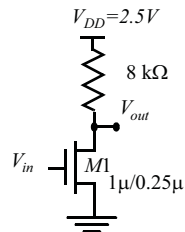

Figure 0.7 MOS circuit.
- [M, SPICE, 3.3.2] Problem 11 uses the MOS circuit of Figure 0.7.
17. [M, None, 3.3.3] Compute the gate and diffusion capacitances for transistor *M1* of Figure 0.7. Assume that drain and source areas are rectangular, and are $1 \mu\text{m}$ wide and $0.5 \mu\text{m}$ long. Use the parameters of Example 3.5 to determine the capacitance values. Assume $m_j = 0.5$ and $m_{jsw} = 0.44$. Also compute the total charge stored at node *In*, for the following initial conditions:
- For the circuit of Figure 0.7, calculate nominal, minimum, and maximum currents in the NMOS device with $V_{in} = 0 V, 2.5 V$ and $5 V$. Assume 3σ variations in V_{T0} of 25 mV, in k' of 15%, and in lithographic etching of $0.15 \mu m$.